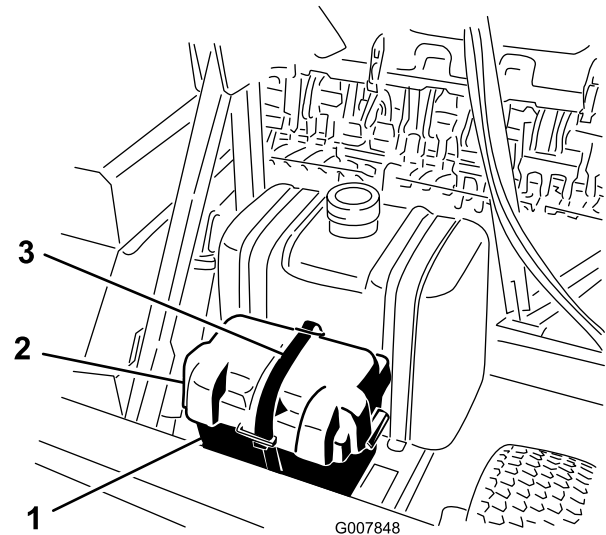

Figure 3
2. Remove the strap securing the battery cover to the battery box (Figure 3).